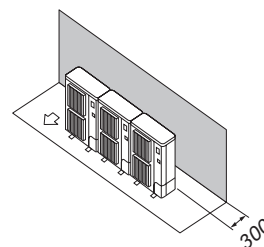

Fig. 4-12
- Obstacles at rear only (Fig. 4-12)